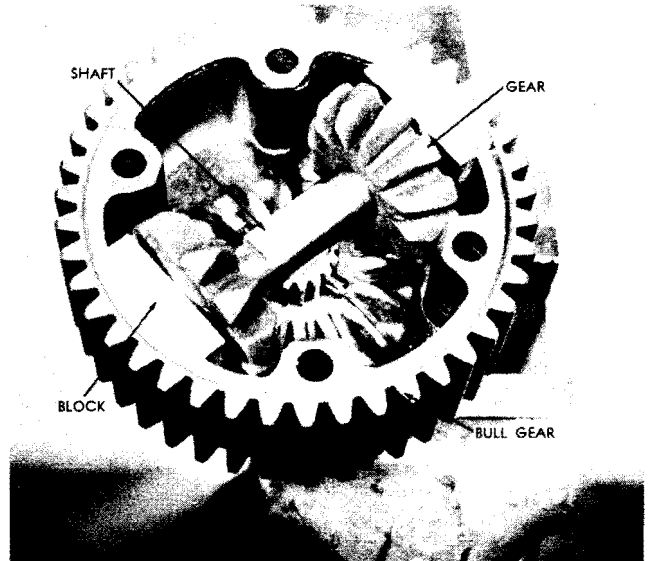

FIGURE 3
1. Install differential assembly in a vise, the case with the threaded holes should be down. Remove the four (4) bolts and lock washers and remove one of the axle shafts, gear, thrust washer and differential case half as an assembly. See Figure 3.
Install the bull gear, differential shaft, gears and blocks as an assembly onto the differential case seating the differential block and bull gear. See Figure 3.